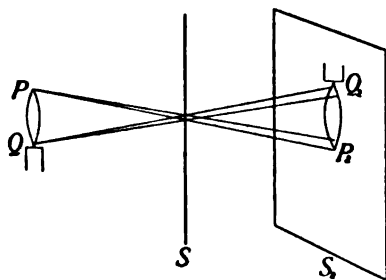

FIG. 349.—Image formed by a small aperture is inverted.
**357. Images by Small Apertures.**—The straight line movement of light makes possible the *pin-hole* camera, by which satisfactory photographs have been made. The action of this device may be illustrated by placing a luminous body, a lighted candle, an incandescent lamp, or a gas flame, in front of a piece of cardboard, *S*, which has a small opening in it. Light from the object (see Fig. 349) falls upon a screen, *S*2, so as to produce an *inverted image*. Other applications of this principle will be given later.
In Fig. 349 let  $PQ$  represent a gas flame, then light from point  $P$  at the *top* of the flame will pass in a straight line through the opening or aperture of the cardboard and strike at  $P_1$  at the *bottom* of the illuminated spot upon the screen. Light from  $Q$  passing in straight lines through the aperture will strike at  $Q_1$  at the *top* of the lighted space. This spot of light will have the same outlines as the luminous body  $PQ$  and being formed as just described will be *inverted*.